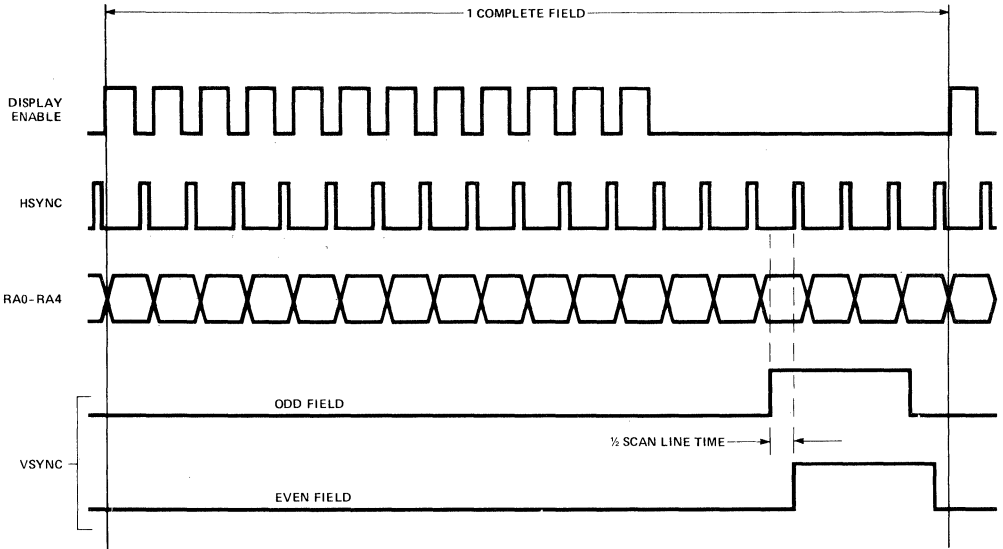

Figure 11. Interlace-Sync Mode Timing
- b) **Interlace-Sync Mode.** This mode is used when the same information is to be displayed in both odd and even fields. Enhanced readability results because the spaces between adjacent rows are filled and a higher quality character is displayed. This is achieved with only a slight alteration in the device operation: in alternate fields, the position of the VSYNC signal is delayed by $1/2$ of a scan line time. This is illustrated in Figure 11 and is the only difference in the SY6545 operation in this mode.